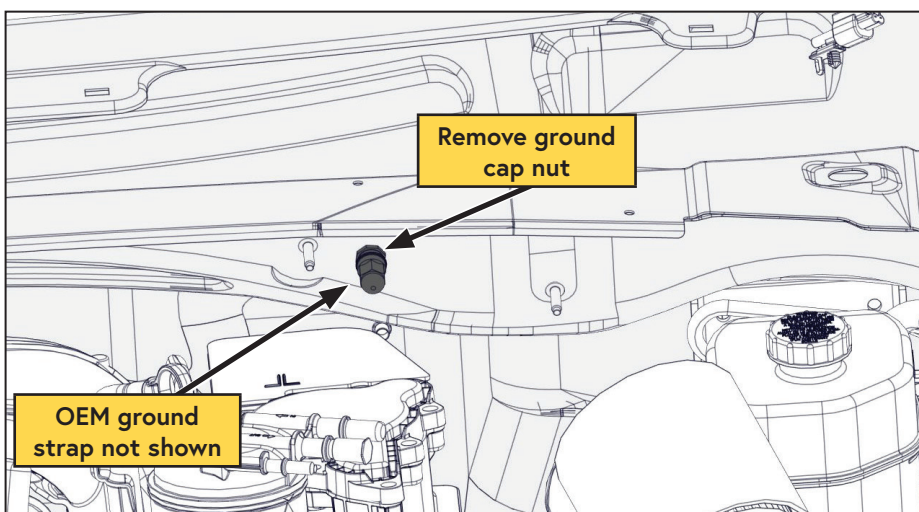

Figure 68 — Mount battery disconnect bracket
- ☐ Remove the OEM ground wire cap nut from the firewall and set it aside (leave the OEM ground wire in place) (Figure 68).